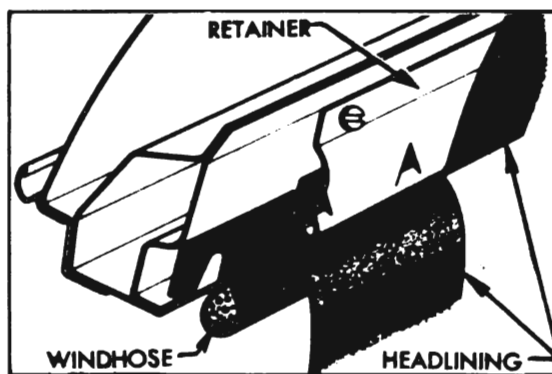

Figure 13-39—Headlining Retainer on Roof Rail
both side roof rails progressively as headlining is loosened, it is easier to disengage the headlining from the retainer. See figure 13-39.
6. Tighten retainers to roof side rails then carefully tuck the edges of headlining up between the retainers and the windhose, using Headlining Inserter J 2772. See figures 13-39 and 13-40.